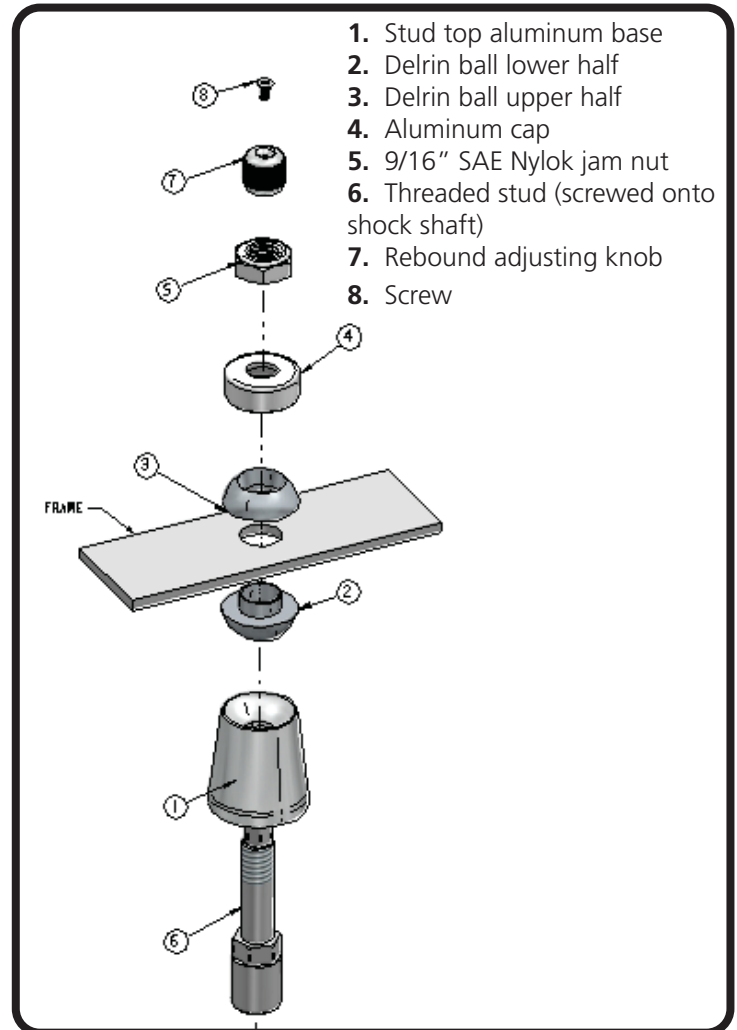

Figure 4
4. Some trimming must also be done on the outside of the frame pocket (Figure 3) and the inside of the coil spring pocket (Figure 4) to allow clearance for the Shockwave.
5. Place the ShockWave into the coil spring pocket with the stud sticking through the OEM shock hole. See Figure 4. The OEM shock hole must be drilled out to $\frac{3}{4}$ ".